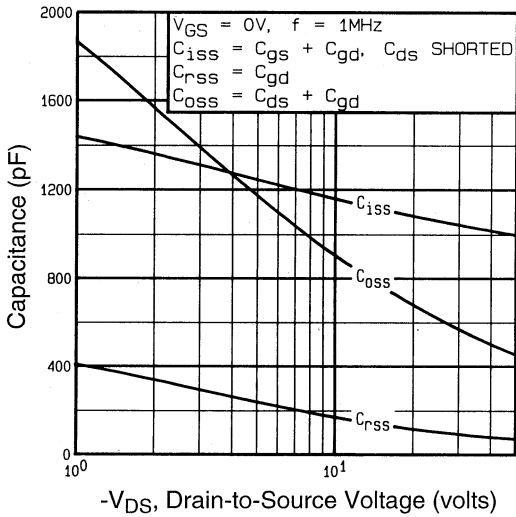

Fig 5. Typical Capacitance Vs. Drain-to-Source Voltage
| C_{rss} | Reverse Transfer Capacitance | — | 100 | — | | $f = 1.0\text{MHz}$, See Fig. 5⑤ |